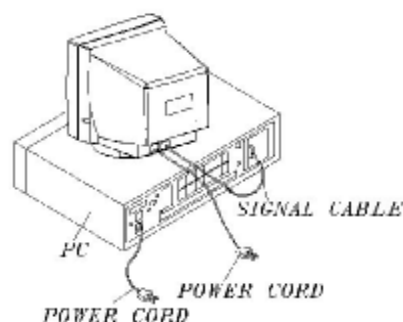

Figure 2
2. Monitor Connection (refer to figure 2)